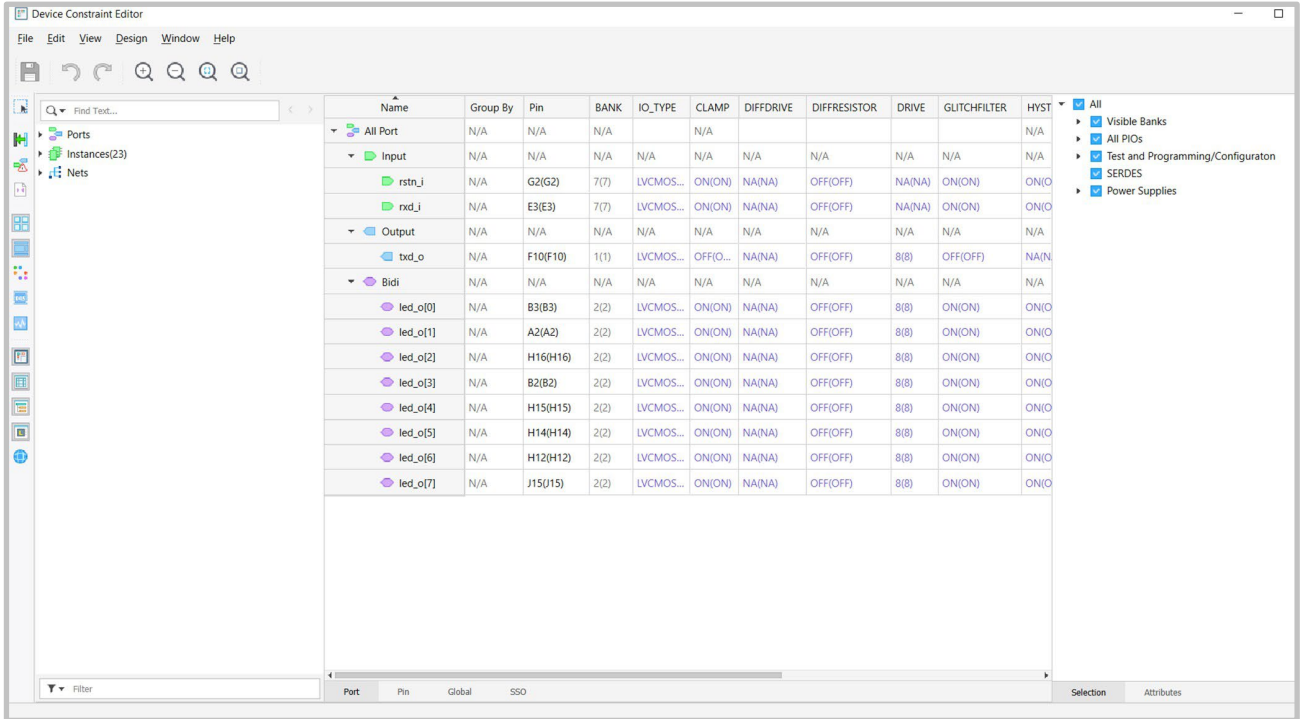

Figure 15: Pin Assignment
- Before compiling the entire design, assign the proper pin number to the signals based on the eval board schematics, see **Figure 15**.